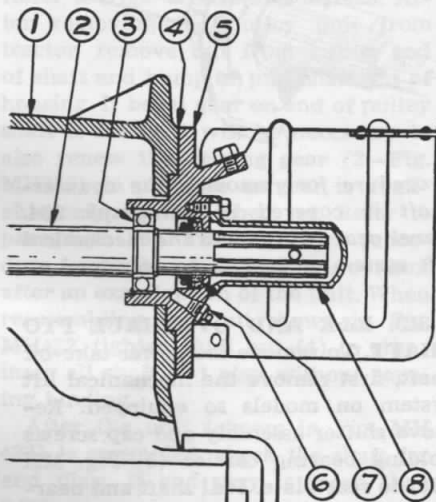
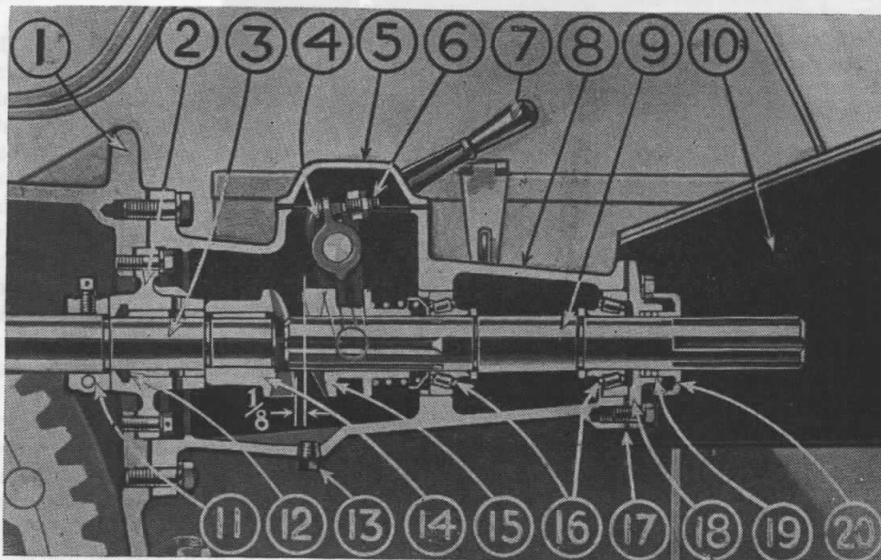

Fig. MH432—PTO shaft installation on models 55, 55D, 55K, 55LP and some 201, 202, 203 and 203G.
Fig. MH433—Power take-off unit (with clutch) as used on models 201, 202, 203 and 203G.
The forward end of pto external shaft (2—Fig. MH432) or pto intermediate drive shaft (3—Fig. MH433) is driven by shaft (19—Fig. MH350) which is mounted in the belt pulley and power take-off drive housing (1). Overhaul procedure for shaft (19) contained in the pto drive housing assembly is covered in paragraph 302.
The PTO shaft on some 201, 202, 203 and 203G models is equipped with an over-running clutch as shown in Fig. MH433.
The procedure for overhauling the unit shown in Fig. MH432 is evident. On models shown in Fig. MH433, the rear end of intermediate drive shaft (3) rides in a bracket mounted bushing which may be renewed when worn. The power take-off external shaft (9) is supported by two roller bearings
(16) which are adjusted by varying the number of shims (17) under bearing cap (18). The power take-off clutch (14) and (15) is provided with an adjustable stop screw (6); which may be adjusted as follows: Remove cover (5) from power take-off housing (8). Push hand lever (7) forward until lower end of lever enters hole provided for locking lever in disengaged position. At this position there should be approximately  $\frac{1}{8}$ -inch clearance between the ends of the two clutch jaws (14) and (15) as shown. Adjust set screw (6) to obtain the proper jaw clearance. Reinstall cover (5).